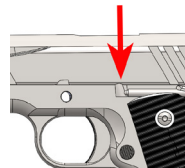

Figure 44
- Align the takedown notch on the slide over the slide stop window on the frame – Figure 44.